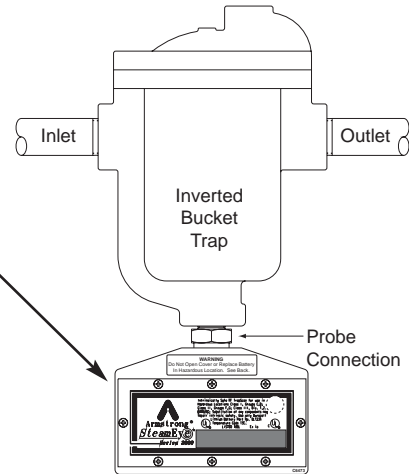

Figure 1. Model URFC 3300 Installation
1. Verify steam trap model and tag number as shown in Figure 1.